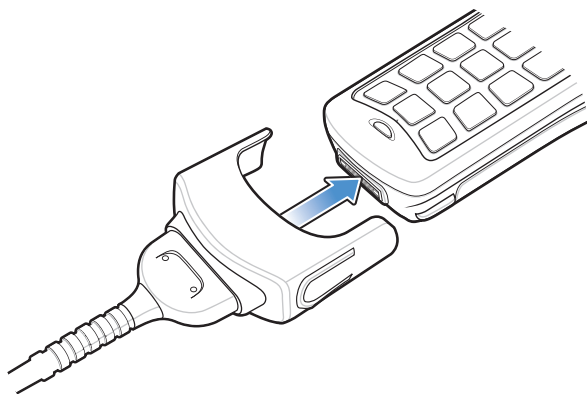

Figure 2-10 Cable Connection
14. Connect the mobile computer to the host computer. See Figure 2-2 on page 2-3 to set up a Single Slot Serial/USB cradle, or see Figure 2-10 on page 2-12 to set up a cable.
14. Connect the mobile computer to the host computer. See Figure 2-2 on page 2-3 to set up a Single Slot Serial/USB Cradle, or see Figure 2-10 on page 2-12 to set up a cable.